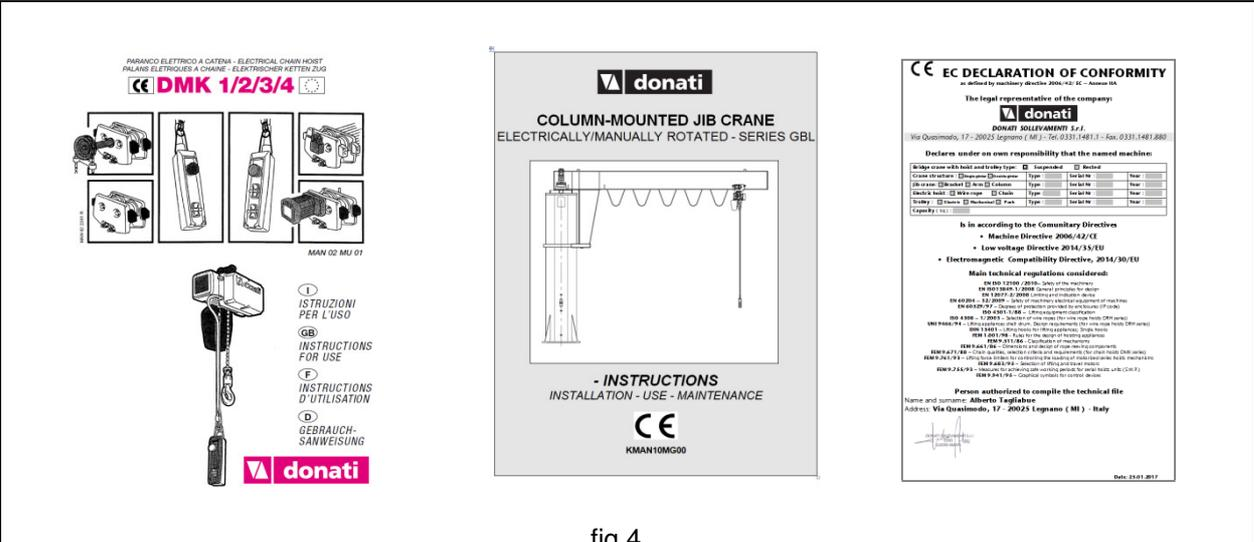

fig.4
- The technical/legal documentation supplied with the jib crane includes (fig. 4):